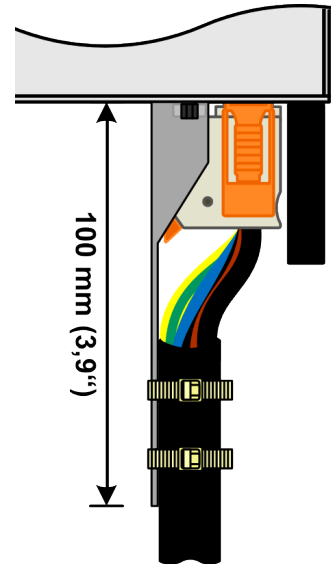

Figure 13 - Pre-assembled strain relief
3. Insert the AC cable with the plug and, viewed from above, guide it length-ways past the mounting bracket and secure it with at least one, but preferably both, of the cable ties supplied. See *Figure 13*.